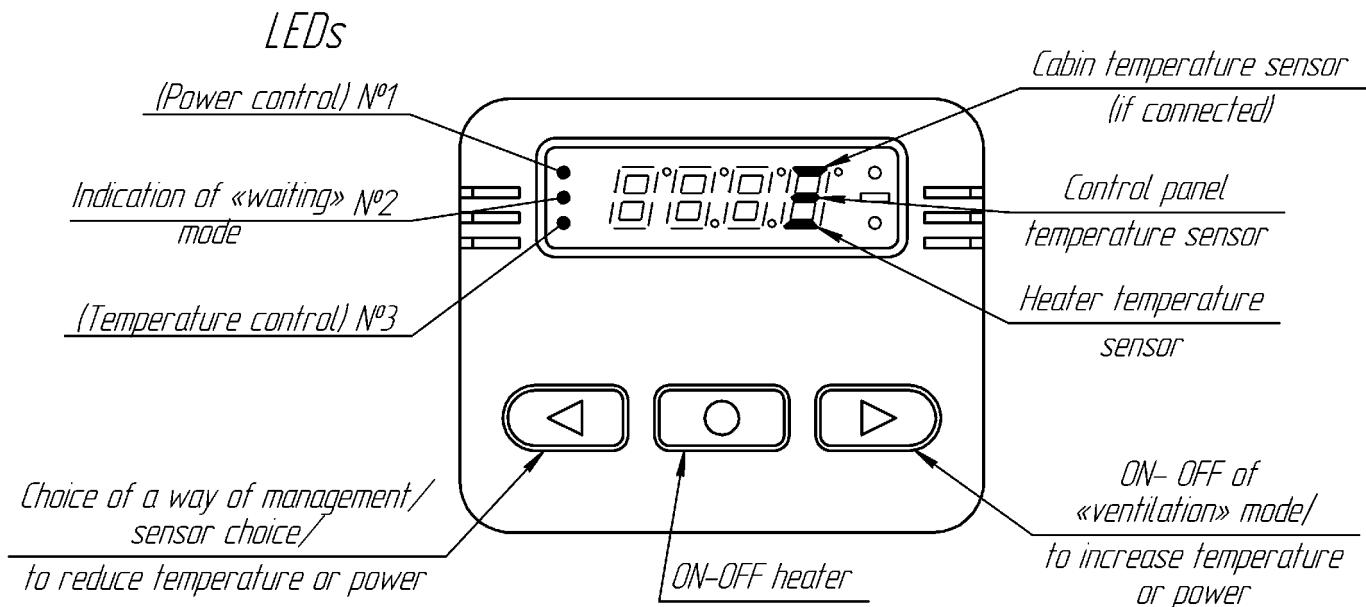

Fig. 6.2- Control panel «ПУ-16М»
6.2.1 The front board of the panel contains: four-digit light emitting diode (LED) indicator, three LEDs and three knobs. Functionality of the knobs and LEDs. (fig.6.2)
While first time the heater is connected to electric circuit of the car or after breaks of power supply, according to environmental temperature there will be following information on the panel (for example)- the temperature in the area of the sensor installed in the heater is -12°C, if the temperature in the area of the sensor is above zero, there will be no "mines" before the figure. Movement according to the main menus is carried out by the button «» (fig.6.2)